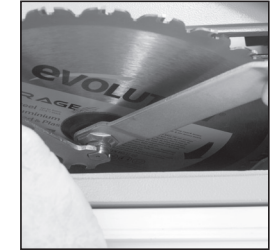

FIG. 41
6. Use the two blade changing tools provided. One to hold the motor arbor, and the other to loosen the arbor nut. (Fig. 41)